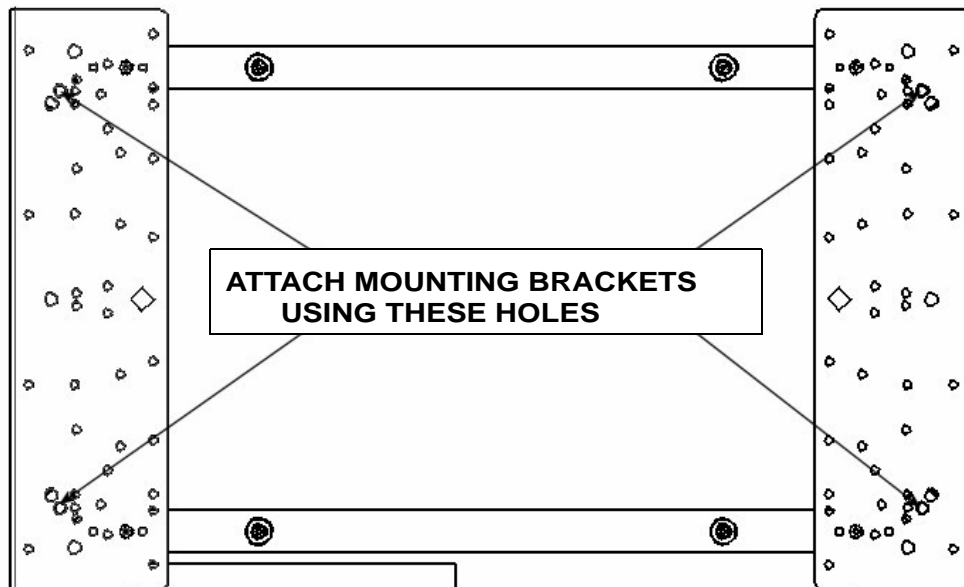

Figure 6. Bracket Attachment for Group 1
4. Place the interface brackets over the Nylon spacers (see Figure 6 and Figure 6).
6. Using the hardware in the parts bag labeled B, attach the interface brackets to your display (see Figure 6). Do not overtighten the mounting screws.